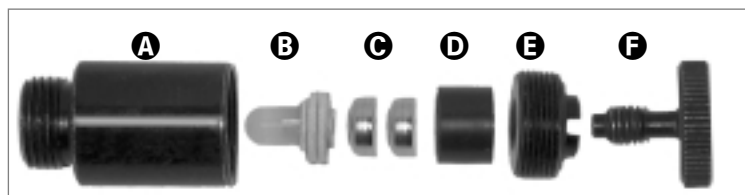

Fig. 13b: Reticle LED assembly: (A) Reticle Container; (B) LED; (C) Batteries; (D) Battery Holder; (E) Threaded Lid; (F) Thumbscrew.
- Remove Plastic from Reticle LED:** The polar alignment reticle LED (30, Fig. 1d) contains two watch batteries. The reticle's LED is shipped with a plastic strip between the two batteries to protect battery life. Unthread both the thumbscrew (F) and the threaded lid (E). Remove the plastic strip before using. Refer to the reticle assembly in Fig. 13b and note the orientation of the batteries. Place the batteries (C) into the battery holder (D) before inserting into the reticle container (A).